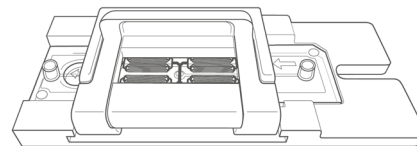

Fig. 24. Top Cover clamped on Celselect Slide and Slide Manifold.
3. Engage the clamp to seal the Celselect Slide between the manifold and the top cover (Figure 24).